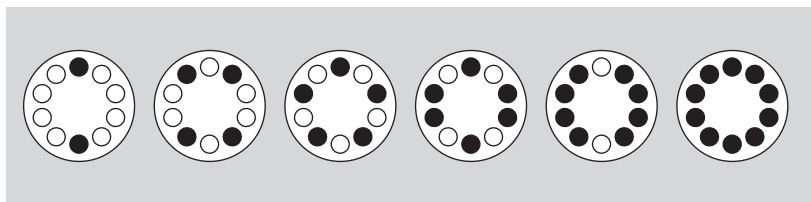

Figure 1. Arranging Tubes in the Rotor. Two, four, five, six, eight, or ten tubes can be centrifuged per run if they are arranged in the rotor as shown.
3. Load the filled and capped tubes symmetrically into the rotor (see page 8 for tube information). If fewer than ten tubes are being run, they must be arranged symmetrically in the rotor (see Figure 1). *Opposing tubes must be filled to the same level with liquid of the same density.*